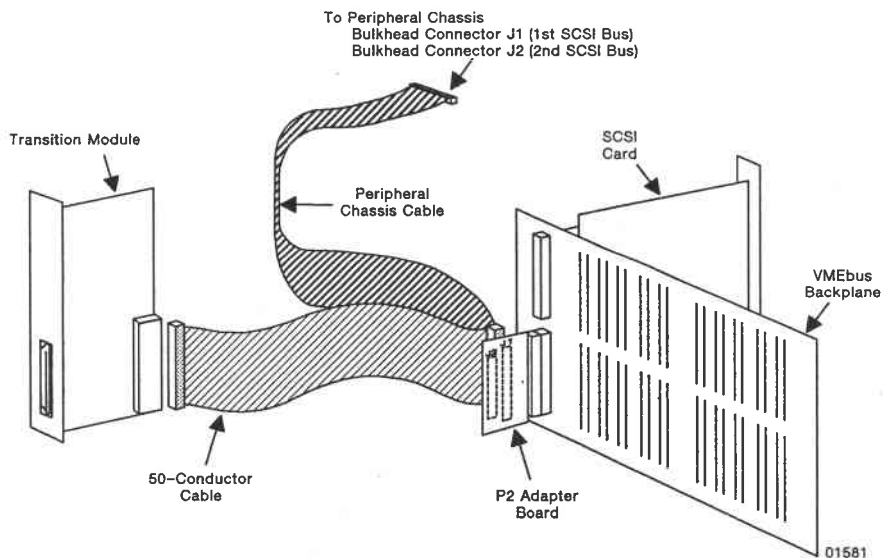

Figure 13. SCSI Bus Adapter Cabling to Peripheral Chassis
8. Connect the SCSI cable to connector J1 of the P2 adapter board and to either the peripheral chassis bulkhead connector (J1 or J2) or the SCSI devices. Refer to Figures 13 and 14.